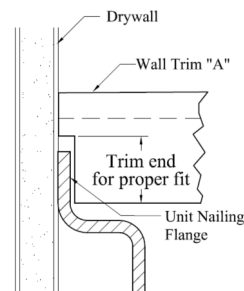

Fig. 1
- 1) Measure and cut the horizontal back piece "A" to fit along the back wall of the shower unit and against the dry wall finish (See Fig 1). Install using preferred technique.